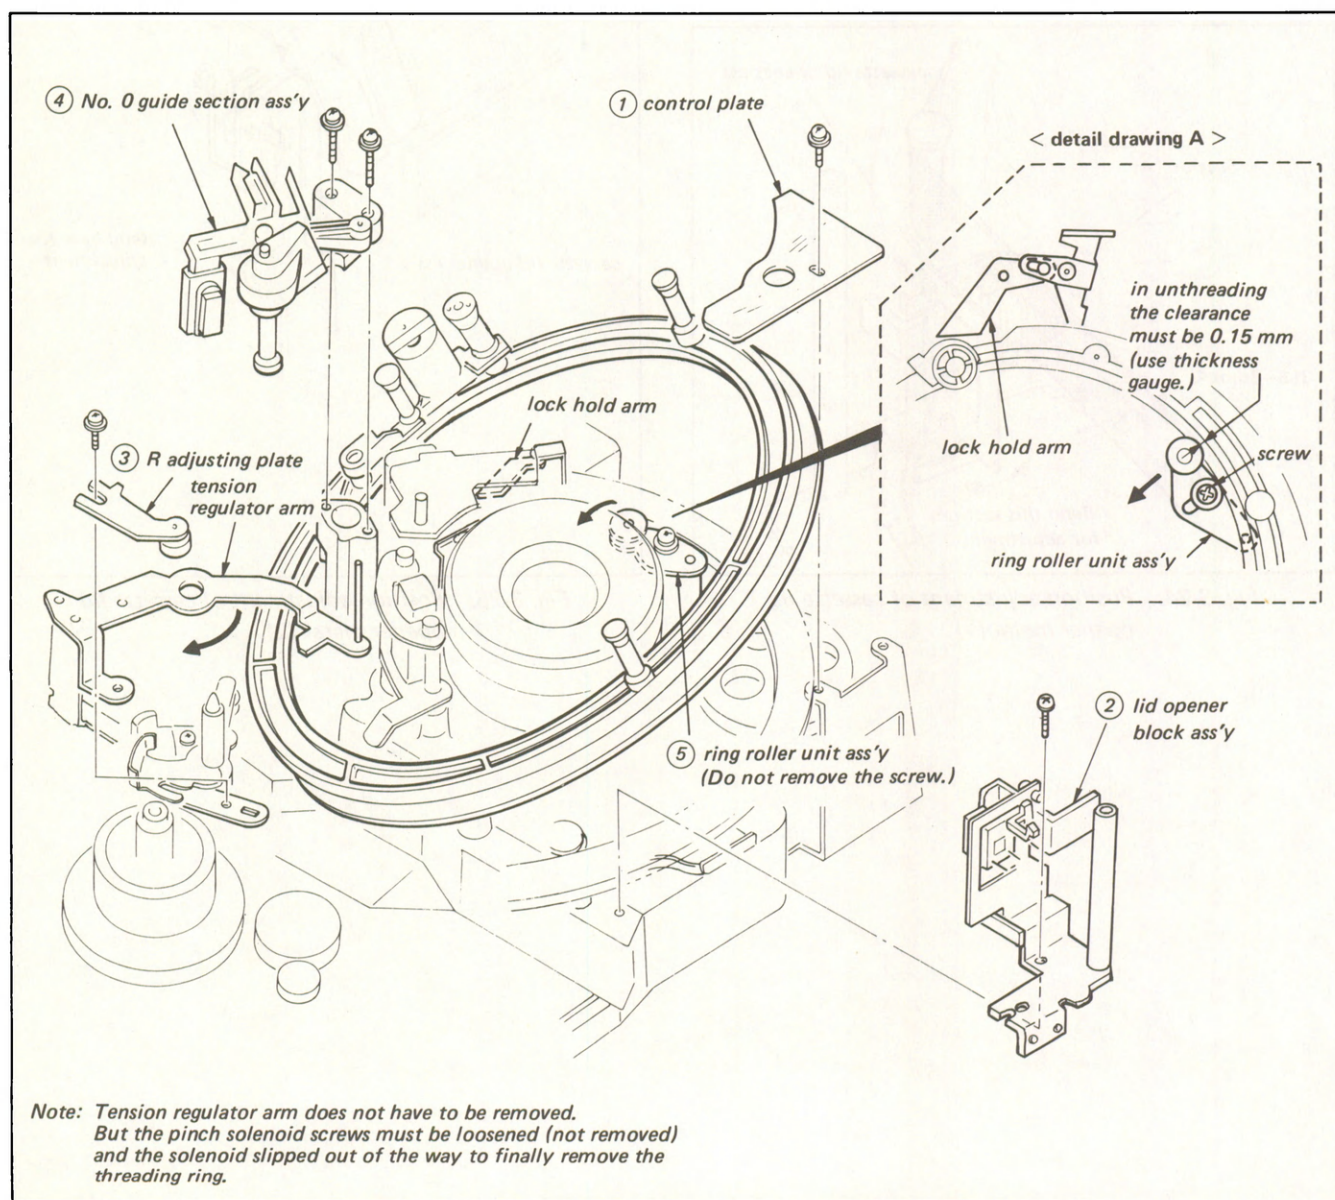

Fig. 3-26. Replacement of threading ring block assembly
1. Turn the threading ring to a point immediately before the threading completion position and stop it at the point where it does not touch the lock hold arm. (See Fig. 3-26.)
2. Perform procedures ① to ⑤ shown in Fig. 3-26.
4. Perform the adjustment of control plate ①, R adjusting plate ③, No. 0 guide section assembly ④, and ring roller unit assembly ⑤ after the replacement.
- (i) As to the adjustment of control plate ①, refer to "Position Adjustment of Threading Unit B assembly and Control Plate", Section 3-8-2.
- (ii) As to the adjustment of R adjusting plate ③, refer to "Clearance Adjustment of Ring Arm", Section 3-8-6.
- (iii) As to the adjustment of No. 0 guide section assembly ④, perform procedure 6 of this section.
- (iv) As to the adjustment of ring roller unit assembly ⑤, perform the adjustment, referring to detail drawing A in Fig. 3-26.